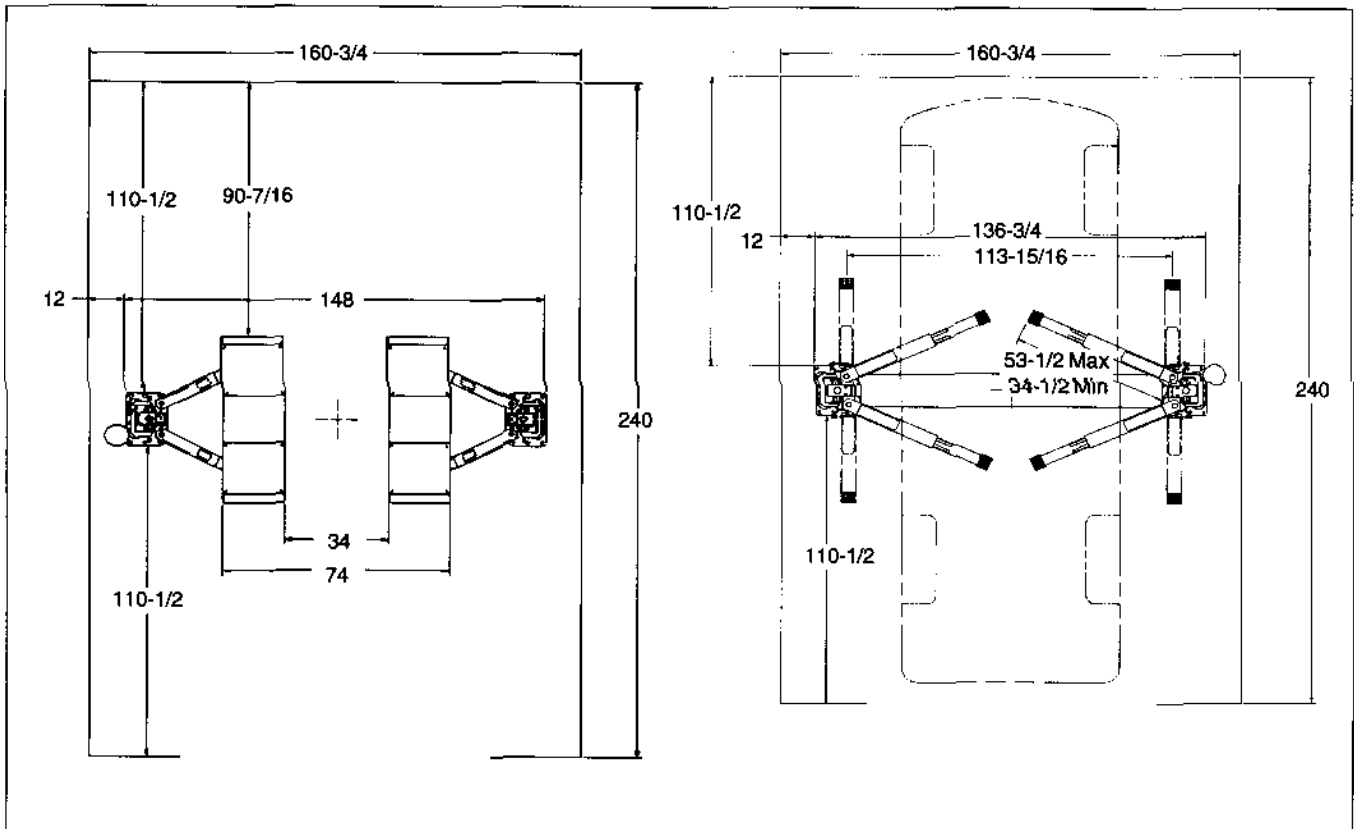

Figure 2 - Minimum Floor Space Requirements (Inches) - APO Lifts (left) and AO Lifts (right)
8. Using the floor space requirements in Figure 2 as a guide, determine the best location for the passenger side post. Measure the distance along the chalk line from "B" to the selected point for the front edge of the base mounting plate. Mark this point "G". Measure the same distance along the chalk line from "C" and mark point "H" for the driver side post. Snap a chalk line between "G" and "H".
1. Determine the approximate location for the lift. Use the floor space requirements in Figure 2 as a guide.